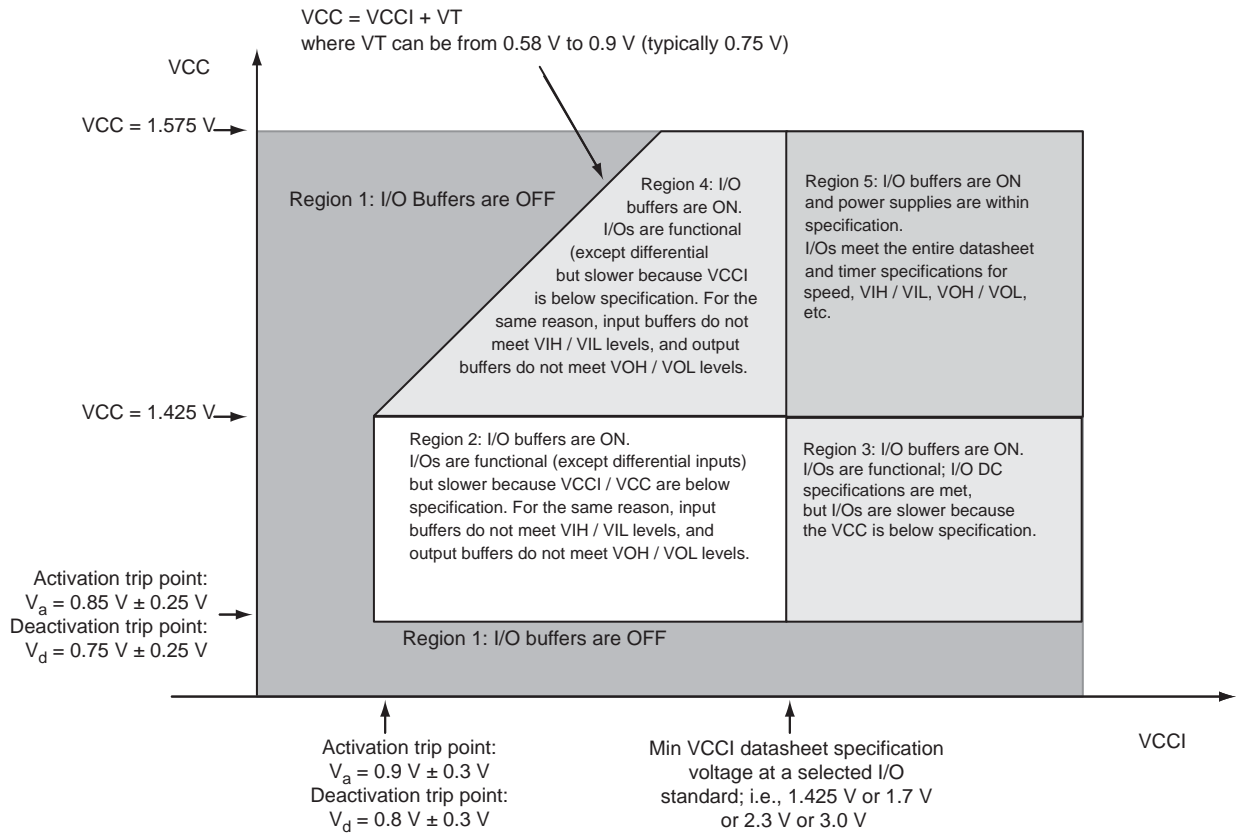

Figure 2-1 • I/O State as a Function of $VCCI$ and VCC Voltage Levels
Sophisticated power-up management circuitry is designed into every ProASIC[®]3 device. These circuits ensure easy transition from the powered-off state to the powered-up state of the device. The many different supplies can power up in any sequence with minimized current spikes or surges. In addition, the I/O will be in a known state through the power-up sequence. The basic principle is shown in Figure 2-1 on page 2-4.
1. VCC and VCCI are above the minimum specified trip points (Figure 2-1 on page 2-4).
Microsemi recommends using monotonic power supplies or voltage regulators to ensure proper power-up behavior. Power ramp-up should be monotonic at least until VCC and VCCPLLX exceed brownout activation levels. The VCC activation level is specified as 1.1 V worst-case (see Figure 2-1 on page 2-4 for more details).